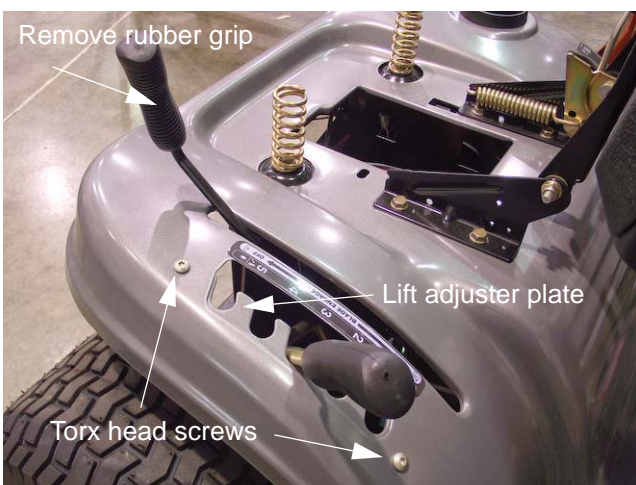

Figure 4.13
11. Remove the rubber grip from the PTO engagement lever on the right side of the fender. A blow-gun with air pressure regulated to less than 25 PSI (1.72 Bars). may be inserted into the small hole at the end of the rubber grip to inflate it slightly, easing removal. See Figure 4.13.
12. Remove the two Torx head screws securing the lift adjuster bracket plate to the fender. Remove the plate. See Figure 4.13.